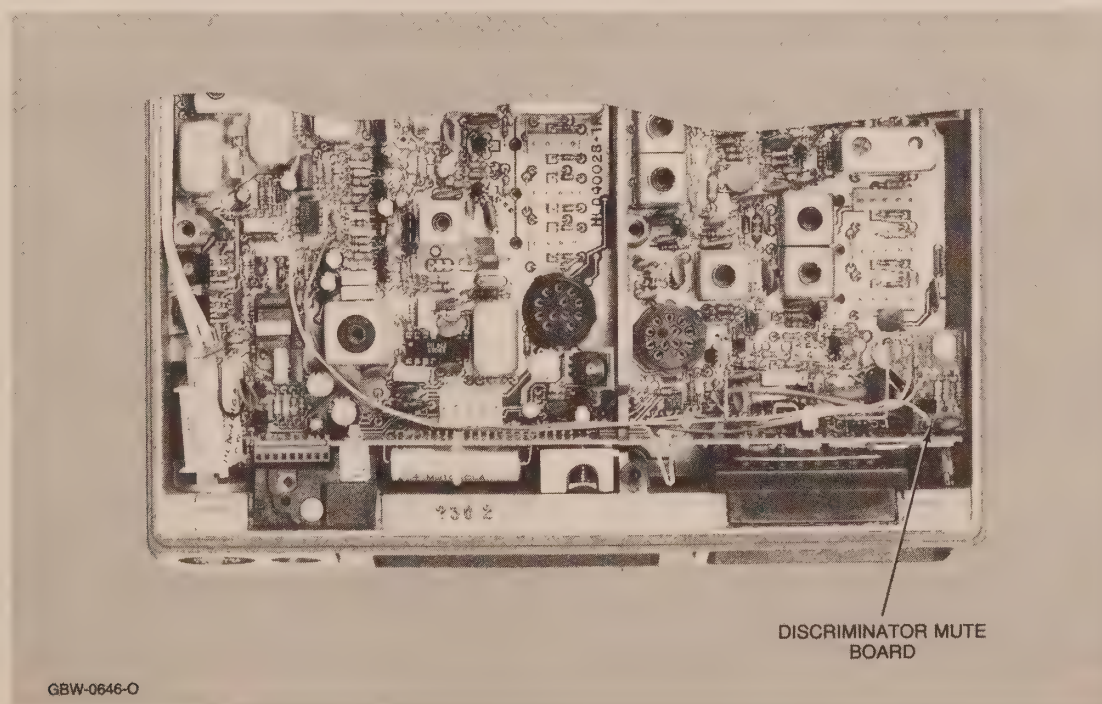

Figure 1. Discriminator Mute Board in *Mitrek* Radio
noise feedthrough that gets on the receive audio. It is factory installed in new radios, and must be added to older radios in the field. It is mounted inside the radio housing on a boss near the front of the transmitter section. (See Figure 1.)
(9) Mount the HLN4573A circuit board on a boss near the control cable connector. (See Figure 1.)
(10) Reinstall the *Private-Line* board or the time-out timer board (if removed) and the top cover.